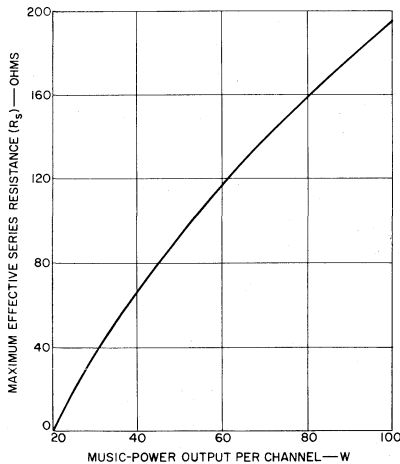

Fig.4 - Maximum effective series resistance as a function of music power.
Eq. (8) is plotted in Fig.4. Each value of  $R_S$  represents the absolute maximum value of effective supply resistance corresponding to a music-power value that will allow the amplifier to deliver a minimum of 100 dB of acoustical power output as described above.
Comparison of Fig.4 with Fig.2 shows that very high ratios of music-power output to continuous-power output may be utilized without sacrificing the ability of the amplifier to reproduce program material. This technique provides economic advantages while adhering to a minimum "power margin" for the faithful reproduction of program material, even at high peak listening levels.